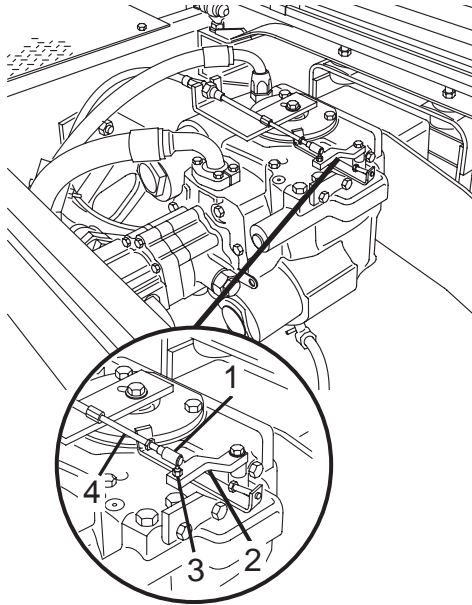

Figure 73
1. Move the pump control lever (Figure 73, Item 2) to engage the drum drive in the CHARGE
3. Once the truck is delivered to the repair shop and properly parked, return the pump control lever to the neutral position, and connect the control cable (Figure 73, Item 4) to the pump control lever (Figure 73, Item 2), by pulling back the head (Figure 73, Item 1) of the cable and installing the cable over the pivot (Figure 73, Item 3). Release the cable head (Figure 73, Item 1).
5. Call McNeilus Mixer Service at (888) 209-6497 if you have questions or need help.